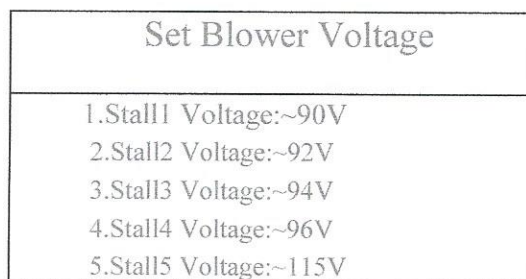

Figure 26
2. Using the SCROLL DOWN key, move down to option 4: "Set Blower Voltage". Press ENTER again to move into the "Set Blower Voltage" screen. SEE FIGURE 26.
4. Using the SCROLL UP or SCROLL DOWN keys, select the appropriate voltage. **NOTE:** *Voltage can be decreased or increased only in increments of five (5).*